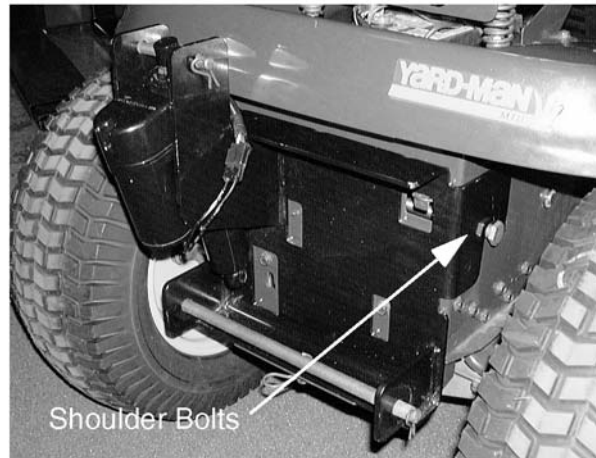

Figure 8-65.
11. Hook the sleeve hitch assembly over the shoulder bolts of the tractor. See Figure 8-65.